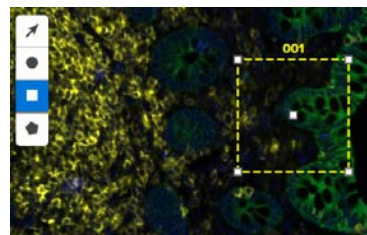

Figure 32: Scan Workspace square ROI button
1. **Select a shape button (circle or rectangle)** from the Scan Workspace \(see Figure 32\).